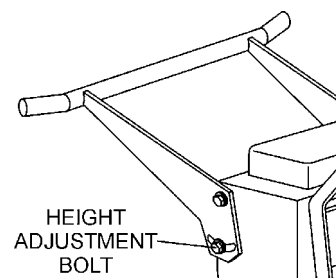

Figure 16. Handle Bar Adjustment Bolt
1. Loosen the height adjustment bolts (Figure 16) on the handle bars until the handle bars can freely pivot.